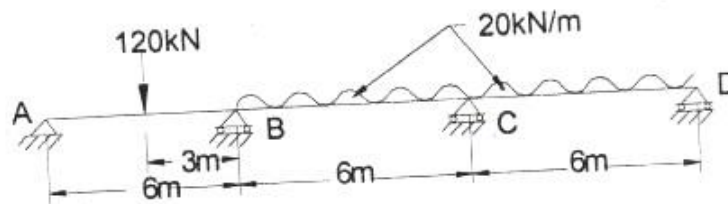

Figure -1
5. Analyze the continuous beam shown in Figure -1 by SDM. (14M)